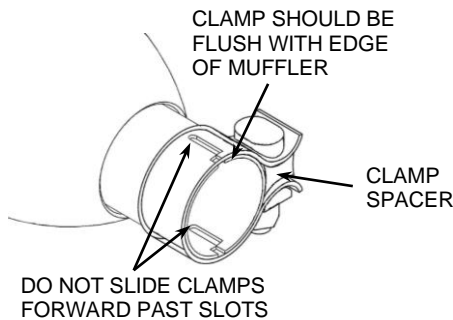

FIGURE 9
23. Adjust the mufflers fore and aft to align the rear of the mufflers with the rear valence. Make sure there is a small gap between the front of the mufflers and the heatshields. Rotate the mufflers so they are level with the ground and then tighten the muffler mounting bolts and the clamps. (NOTE: The clamps should be flush with the end of the muffler inlet when tightened. If the clamps are slid past the slots on the muffler inlet the clamps will not tighten properly). See **FIGURE 9**.